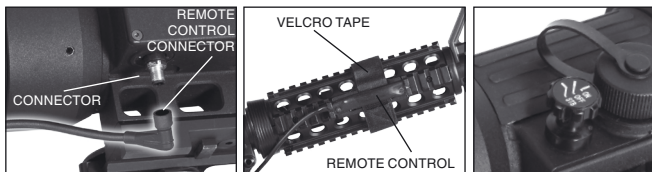

FIGURE 2-8. REMOTE CONTROL
1. Remove the rubber cap from the connector. The rubber cap can be placed onto the screw head, that attached the strap of cap to the body of device (see Figure 2-8).